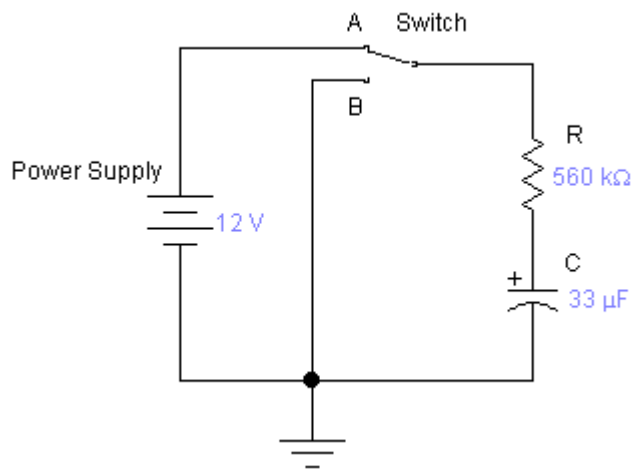

Figure 1.
1. Set up the circuit as shown in figure 1 with the switch in position A. (**NOTE THE POLARITY OF CAPACITOR IN THE CIRCUIT**)